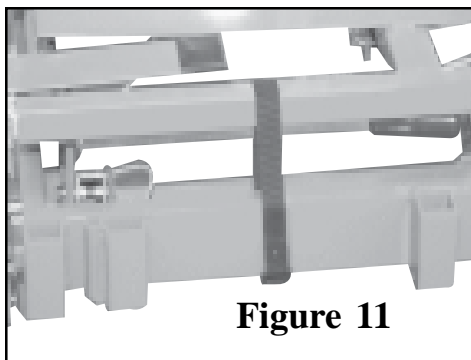

Figure 11
5. Make sure that the black woven safety strap located at the head end of the bed is securing the head gatch patient support surface to the base (see figure 11) .